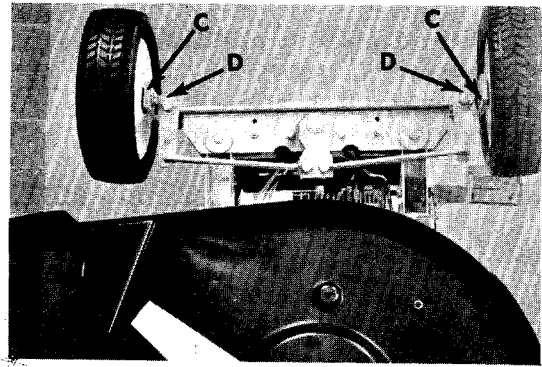

FIGURE 18. LUBRICATION
- Front Wheel Bearings.** Remove the front axle bolts and coat the axle with a multi-purpose automotive type grease and reassemble once a season. See figure 18.
- King Pins.** Lubricate the king pins after every 25 hours of operation with SAE 30 oil. Wipe up excessive oil with a rag. See figure 18.
Step 5. Lubricate all points indicated in figures 18 and 19; then wipe the entire machine with an oiled rag in order to protect the surfaces.